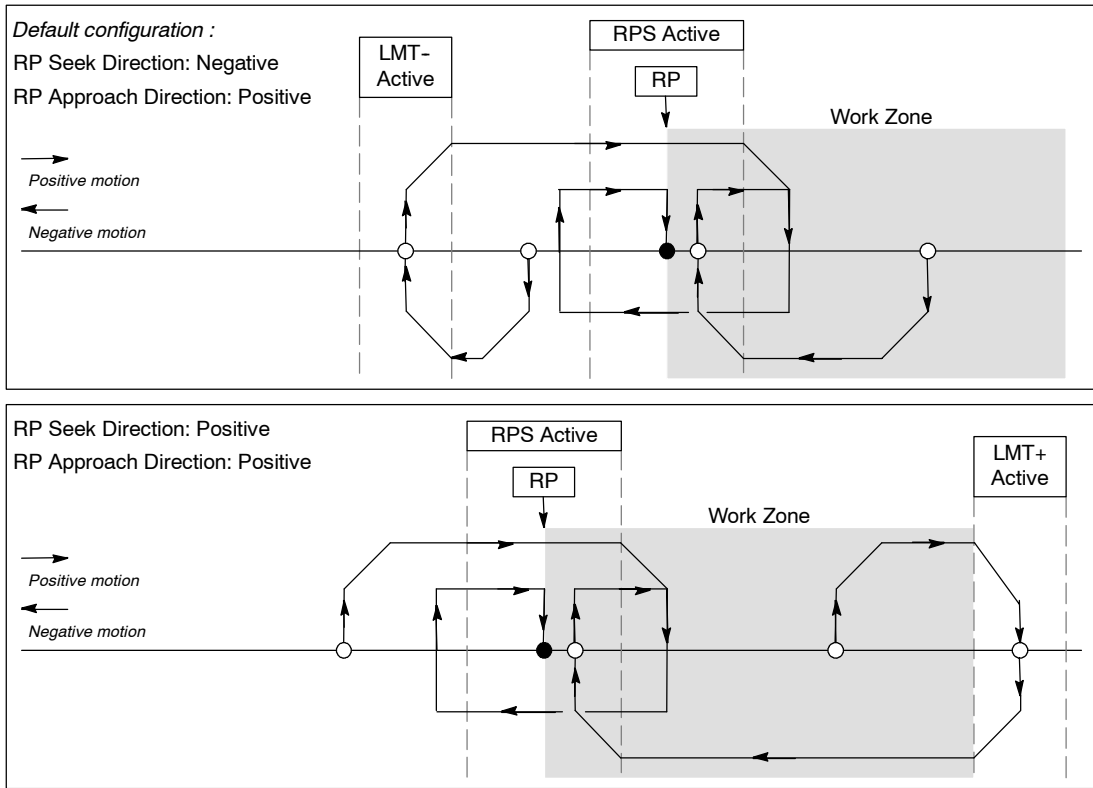

Figure 9-15 RP Seek: Mode 2
- Figure 9-15 shows two of the options for RP seek mode 2. This mode locates the RP in the center within the active region of the RPS input.